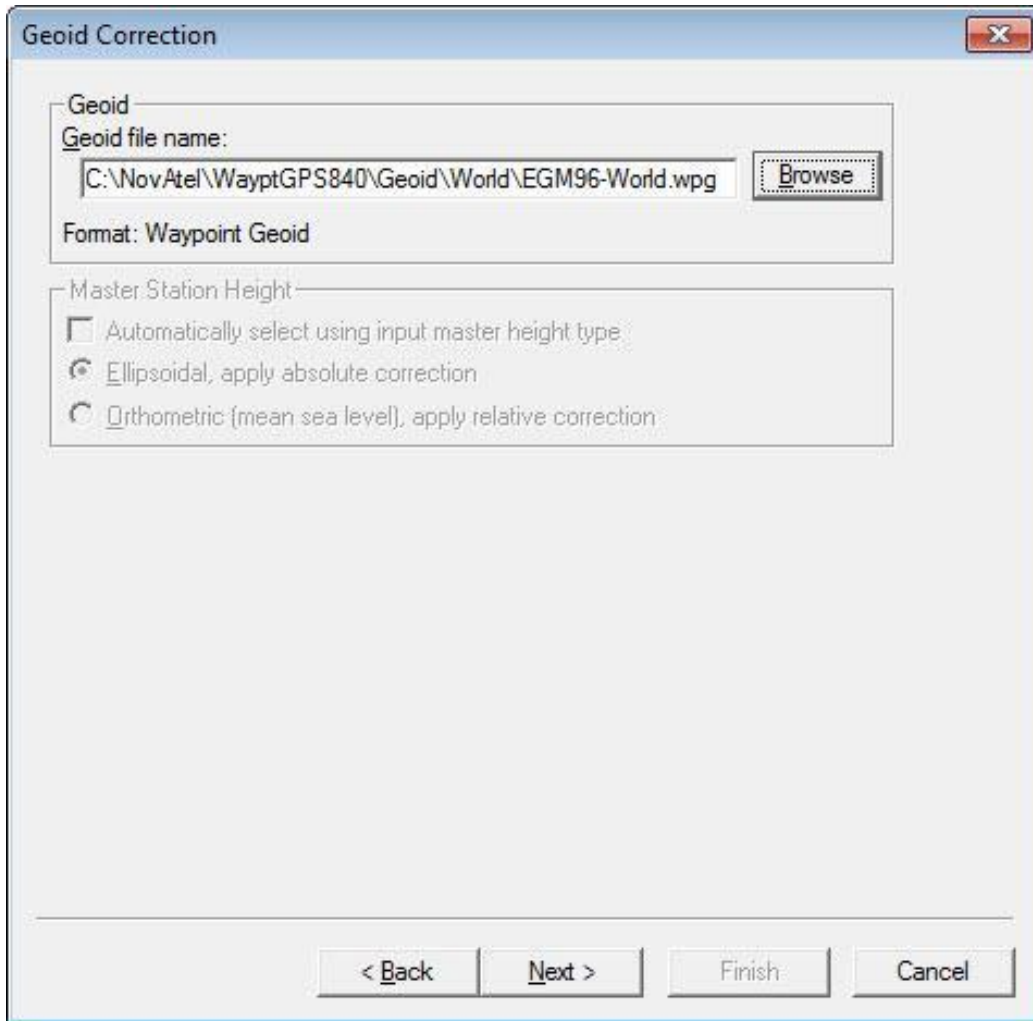

Figure 7-14 Geoid Correction Dialog
- In the **Geoid Correction** dialog (Figure 7-14), point to the **EGM96-World geoid** (or other geoid model as specified in the survey requirement). Click **Next**.